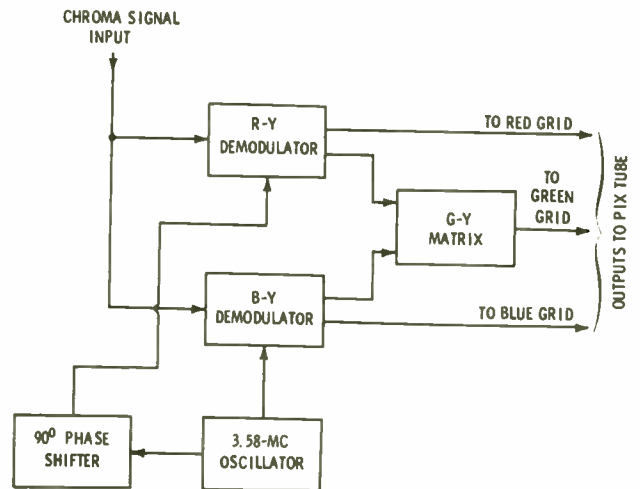
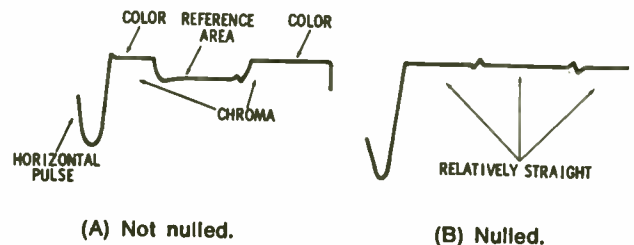
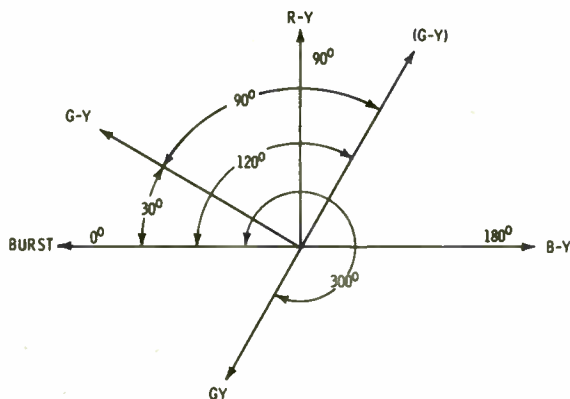

Fig. 10-4. Block diagram of the chroma section.
Fig. 10-5. Oscilloscope trace of chroma null.
Fig. 10-7. Phases of G-Y, R-Y and B-Y signals.
1. Connect a scope and low-capacitance probe to the output of the R-Y demodulator (Fig. 10-4).
4. Tune in the applied signal (Fig. 10-5).
Suppose the test is satisfactory, as depicted in Fig. 10-5. In such case, you know that the generator is supplying R-Y and B-Y signals exactly in quadrature, as required. On the other hand, if the test results are not satisfactory, it is advisable to repeat the procedure. Be sure that you start by adjusting the color-
nals are shown in Fig. 10-7. After the R-Y and B-Y phases have been checked out satisfactorily (or restored to accurate quadrature by delay-line troubleshooting), you can proceed to check the G-Y and G-Y/90° phases. Connect the scope to the output of the G-Y matrix (Fig. 10-4). Set the generator to G-Y output. Adjust the receiver's color-phasing control for maximum height of the color segments in the scope pattern (Fig. 10-5). Then, switch the generator to G-Y/90° output. A null pattern should now be observed.